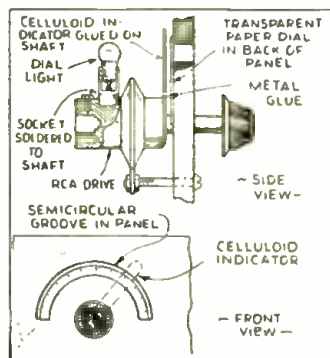

Fig. 4. Sketch of the dial shown in Fig. A (left.)
**HOME-MADE ILLUMINATED VERNIER DIAL.** A highly efficient vernier illuminated dial can be made from an RCA vernier drive, Part No. 6675. The complete assembly of parts is illustrated in Fig. 4.